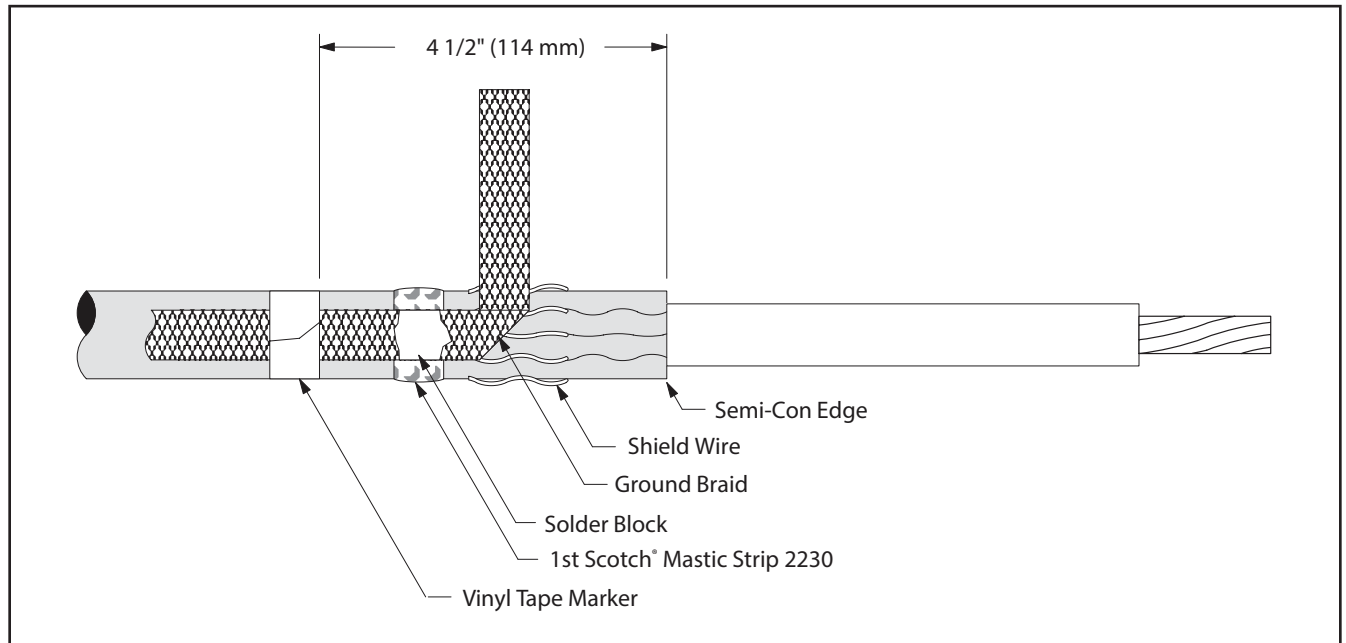

Figure 19
13.2 Position pre-formed ground braid with short tail directly over cut edge of folded back shield wires. Position long tail of ground braid, extending over cable semi-conductive jacket with solder block over mastic strip (Figure 19). Secure ground braid to cable semi-conductive jacket 4 1/2" (114 mm) from cable semi-con edge using vinyl tape (Figure 19).